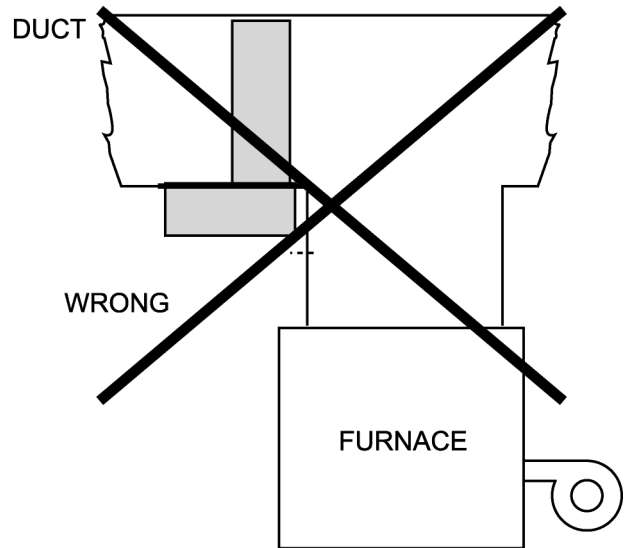

FIG. 2
- 6) Do not install heater from top or bottom of duct. (Please see Fig. 2).